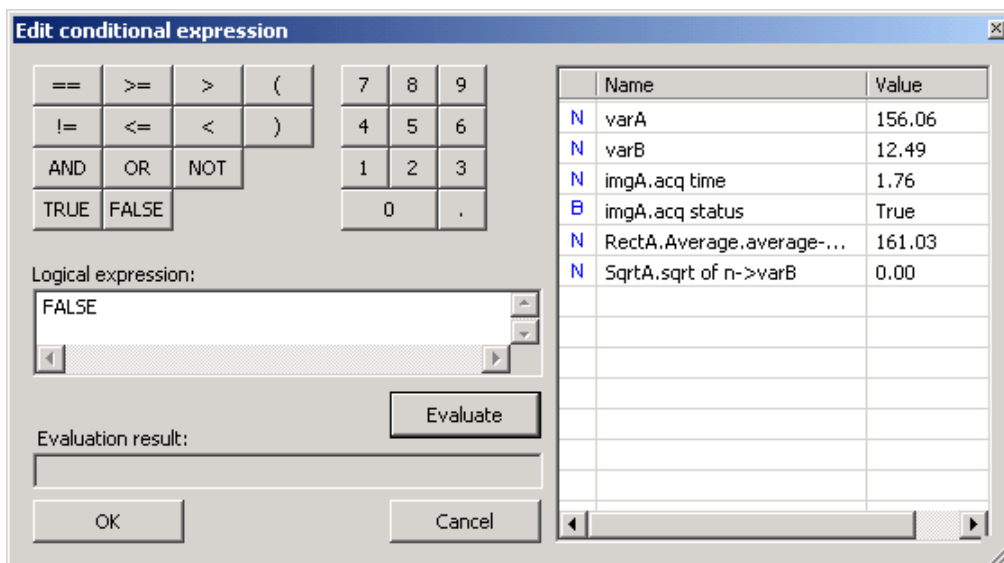

Figure 17. Conditional Statement
12. Double-click on the “ifelseA” instruction, to open the Edit Conditional Statement dialog (Figure 17).